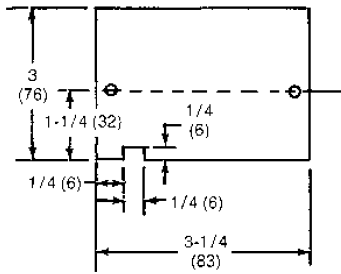

Figure-3 Field Supplied Duct Hole Cover Plate.
2. Fabricate a cover as shown in Figure-3.